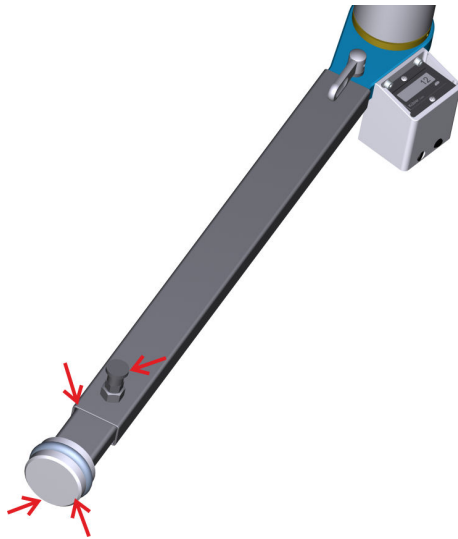

Fig. 44: Reaction arm braced incorrectly
2. Ensure that the nutrunner is braced with the telescopic bar attached and that the bar is in full contact with the surface. Also ensure that the points marked with → (Fig. 44) never absorb the torque.